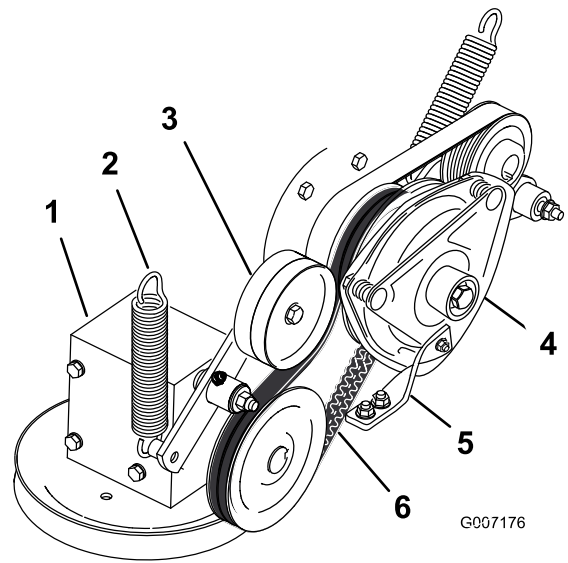

Figure 79
4. Remove the spring from the idler arm (Figure 79).
7. Install the PTO-drive belt around the clutch pulley and the gearbox pulley (Figure 79).
9. Install the spring to the idler arm (Figure 79).